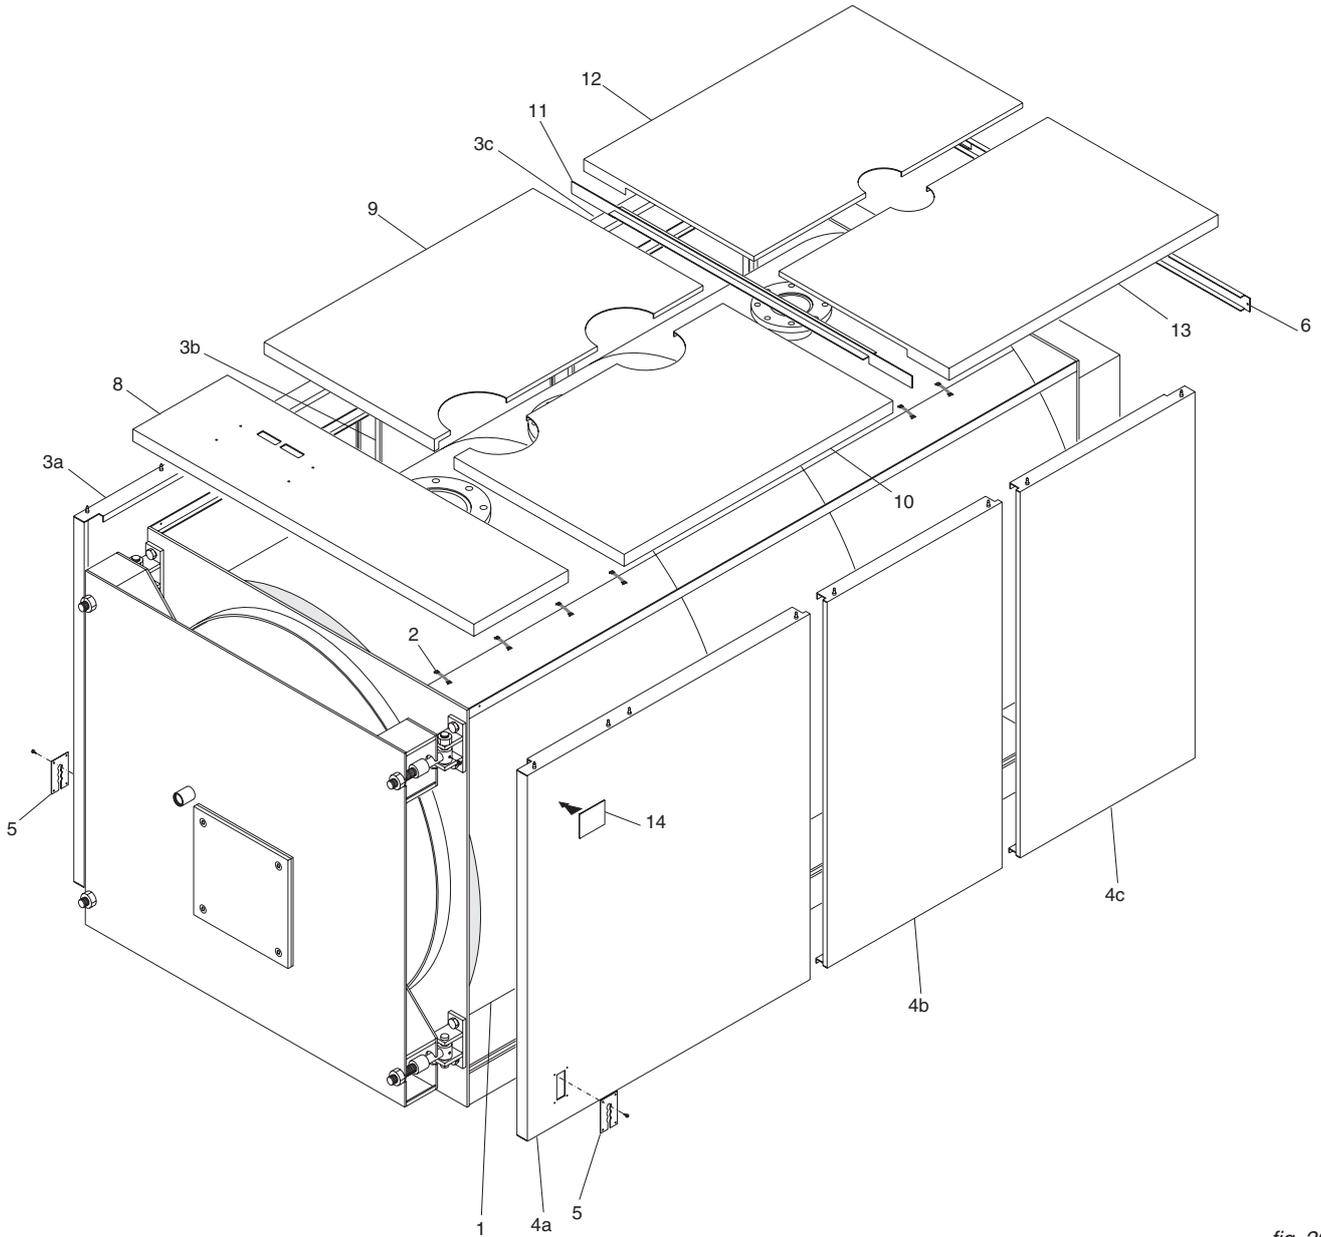

fig. 26
N.B. For the model **ELLx 2650** (ref. fig. 26) the casing and the insulation are contained in 4 cartons.
Mounting sequence (Ref. fig. 26)